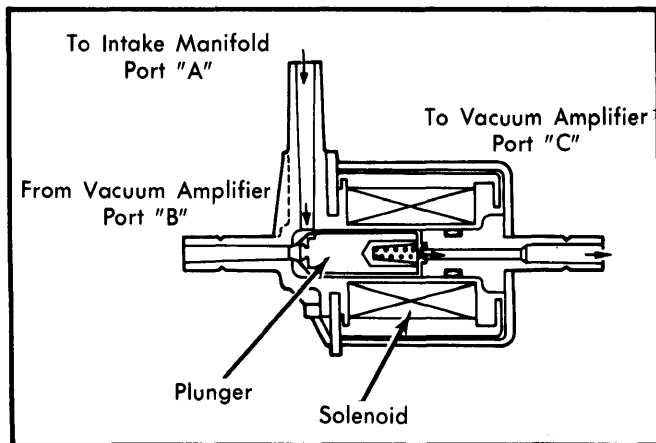

Fig. 4 Exploded View of Calif. Auto. Trans. GLC No. 1 Three-Way Solenoid Valve
2) Disconnect electrical connector (Black/White wire) from solenoid valve. Blow through hose which was disconnected at intake manifold. Air should escape at port "C". See Fig. 4.